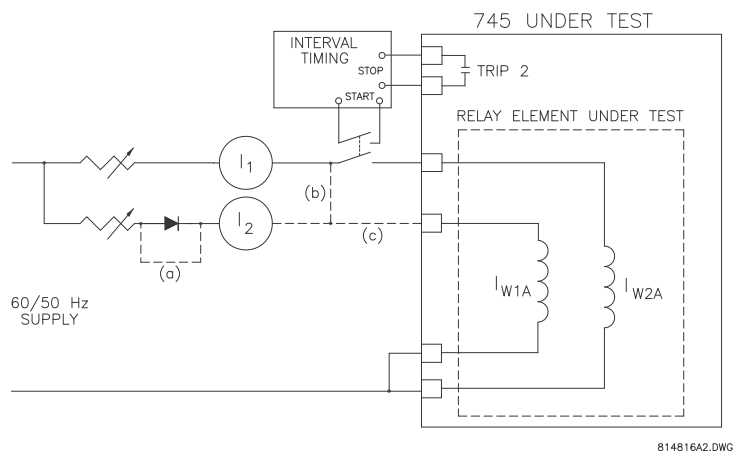

FIGURE 7-9: General test setup
- ▷ Using the setup shown in FIGURE 7-9: *General test setup* on page 7-25 and the Interval Timer enabled, set the current level to the desired value.
A simple verification the selected reset mode can be obtained using FIGURE 7-9: *General test setup* on page 7-25. The procedure consists of performing repetitive operating time measurements in quick succession. If the reset is selected for instantaneous, the operating time will always be equal to the nominal time derived from the selected curve. If the reset is selected as linear, the operating time will vary as a function of the time between successive application of the current signal. If performed at current multiples of 2 to 3 times the pickup level, the variations in operating time will be easier to detect.
To ensure that only the phase instantaneous overcurrent 1 element operates the trip relays (and any other output relays) selected by the logic, disable all protection features except phase instantaneous overcurrent 1. Use the general test setup shown in FIGURE 7-9: *General test setup* on page 7-25.
To ensure that only the neutral time overcurrent element under test operates the trip relays (and any other output relays) selected by the logic, disable all protection features except neutral time overcurrent. Use the general test setup shown in FIGURE 7-9: *General test setup* on page 7–25.
- ▷ Using a table like the one shown below, select three (3) or four (4) values of current multiples at which timing is to be measured.
- ▷ Using the setup in FIGURE 7-9: *General test setup* on page 7-25 and the interval timer enabled, set the current level to the desired value and apply suddenly by closing the double-pole switch.
A simple verification of the reset mode selected by **S4 ELEMENTS ▷ ▾ NEUTRAL OC ▷ W1 NTRL TIME OC ▷ ▾ W1 NEUTRAL TIME OC RESET** is obtained using the setup shown in FIGURE 7-9: *General test setup* on page 7-25. The test consists of repetitive operating time measurements in quick succession. If the reset is set for “Instantaneous”, the operating time is always equal to the nominal time derived from the selected curve. If the reset is set as “Linear”, the operating time varies as a function of the time between successive applications of current. The variations in operating time are easier to detect if this test is performed at current multiples of 2 to 3 times the pickup level.